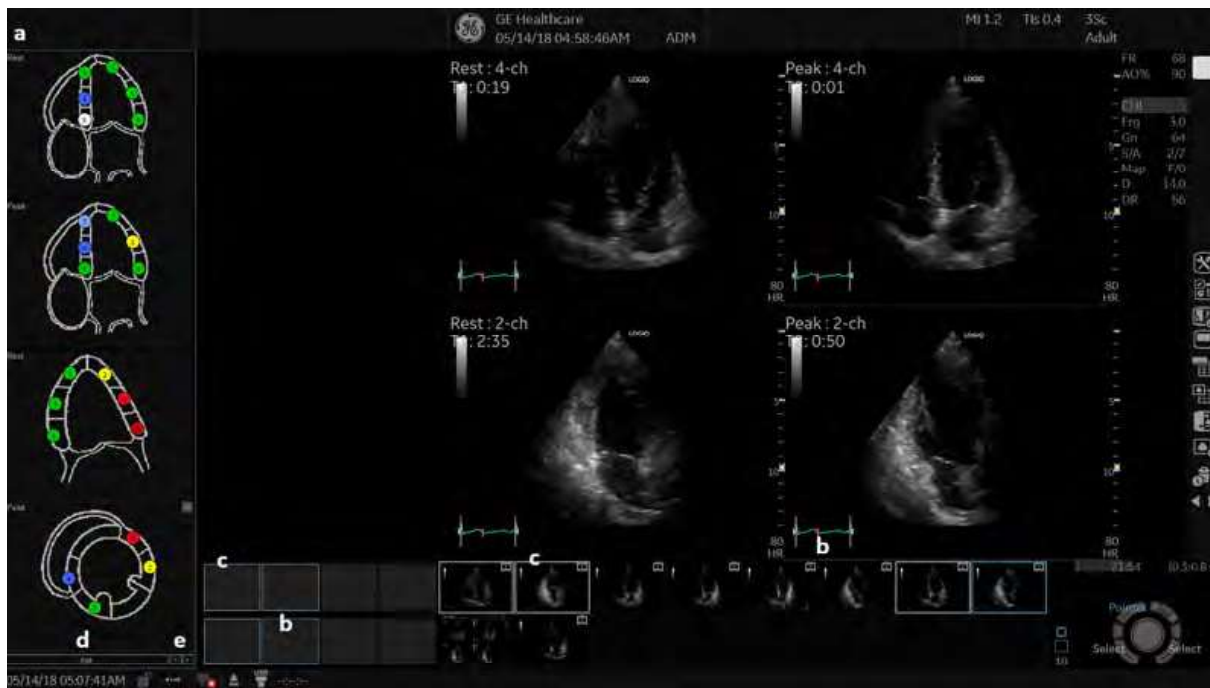

Figure 13-86. Analysis Screen
3. To advance to other groups, use the **Trackball** to move the cursor to the arrows at the bottom of the Wall Segment window. Select an arrow to advance to another group. For further clarification, see callout E in Figure 13-86.